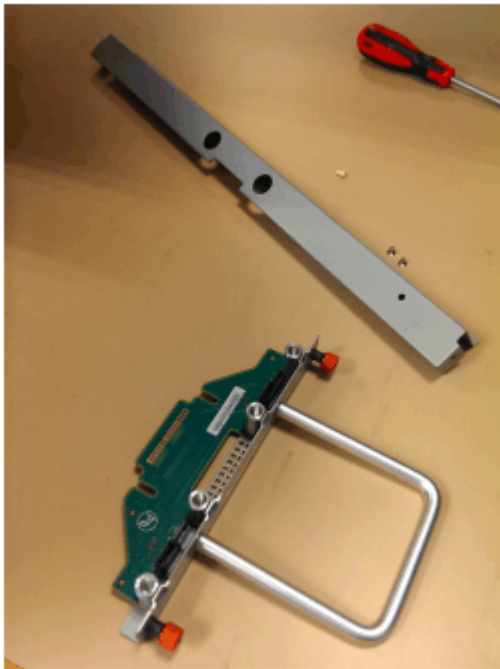

Figure 103. FIB parts for the chassis
1. Assemble the new FIB, cover, and the cover screws (shown in Figure 103 on page 83) in a safe location.